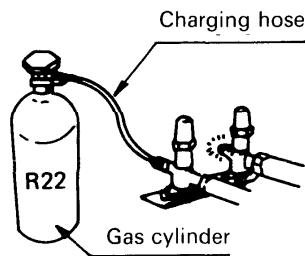

Fig. 12
(2) Air Purging Procedure (If tubing length will not exceed more than 50 ft.)
- a) Connect refrigerant charging cylinder to narrow tube service valve, and open the valve of the charging cylinder. Fig. 12